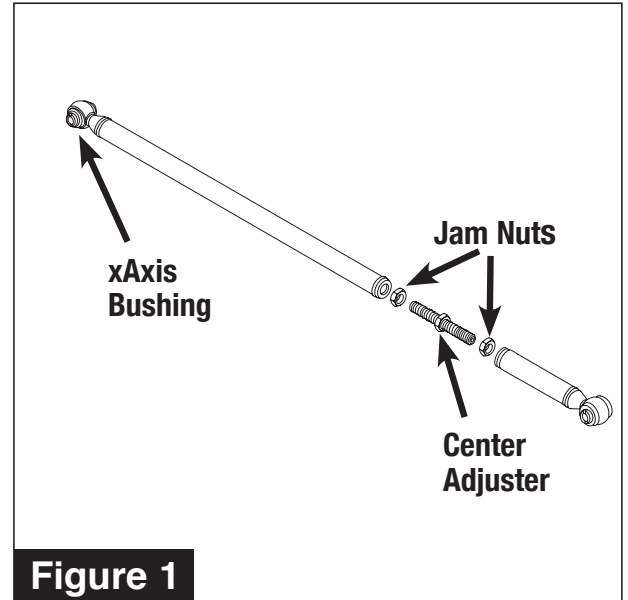

Figure 1
2. Adjust length of SPC track bar to approximate length of OE track bar by turning adjuster. Ensure that an equal number of threads are present on either side of adjuster hex to allow for maximum adjustment range, see **Figure 1**.